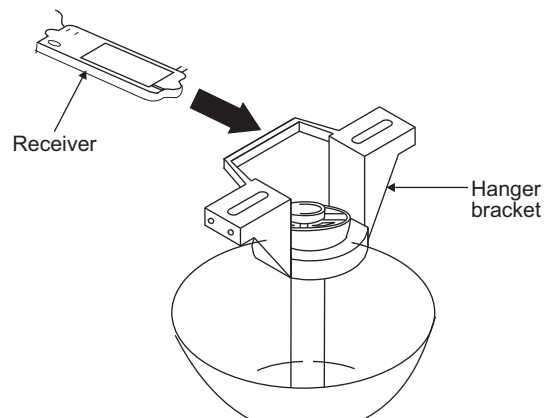

Figure 12
Step 1. (Figure 12) Insert the receiver into the mounting bracket with the flat side of the receiver facing the ceiling.